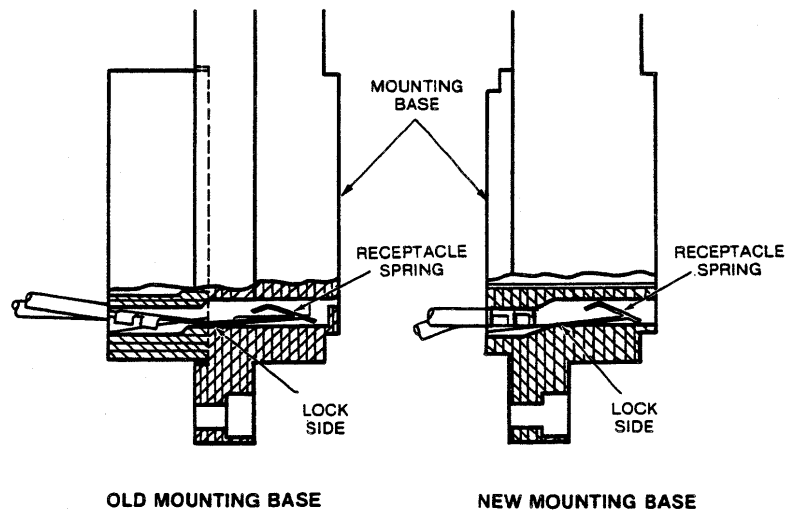

FIGURE 2-2. RECEPTACLE CONTACT SPRING INSTALLED
- a. Receptacle contact springs must be inserted into the base with the lock side down (Refer to Figure 2-2).